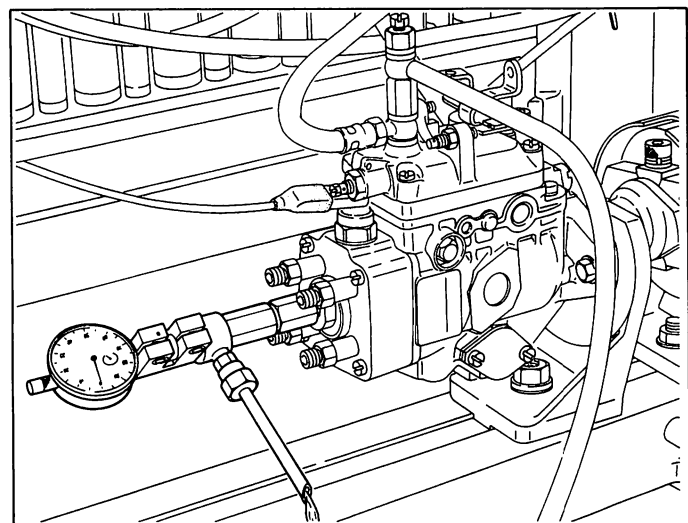

Fig. 101 Connecting the pipes
1. After removing the bolt (130/3) screwed into the plug (130), fit the measuring device (105782-8160) with the dial gauge (157954-3600).
2. Connect the supply and overflow fuel pipes to the injection pump. (Fig. 101)
4. Set the "0" (zero) position of the dial gauge to align with the plunger's bottom dead center position and, at this time, confirm that the test oil flows from the measuring device. (Fig. 101)